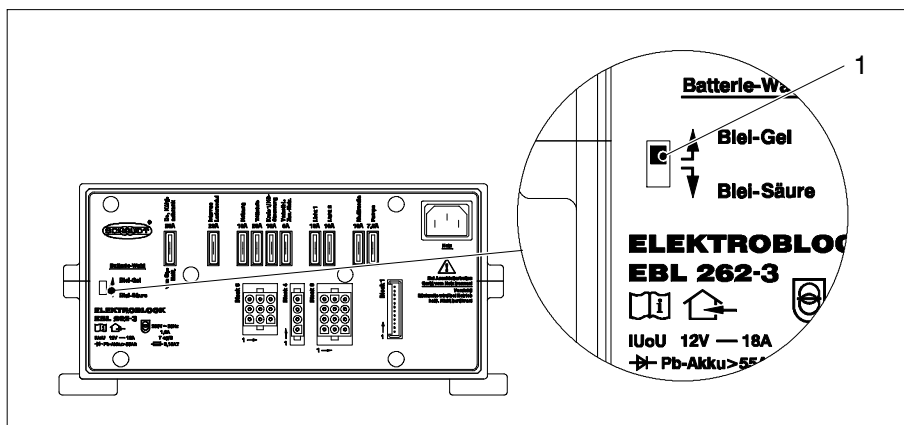

Fig. 1 Battery selector switch
- Set the battery selector switch (fig. 1, pos. 1) to the correct position using a thin object (such as a ballpoint pen):